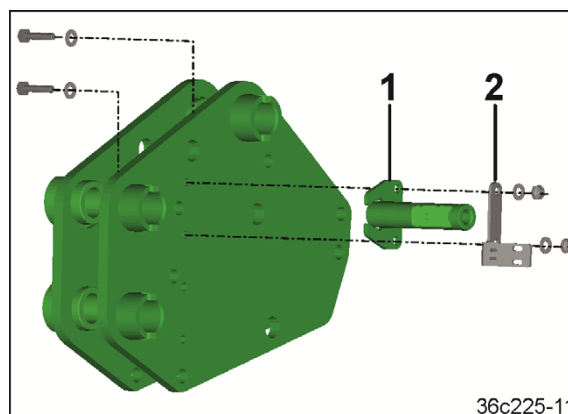

Fig. 112
2. Bolt the holder (Fig. 112/1) and sensor bracket (Fig. 112/2) onto the upper coupling point.